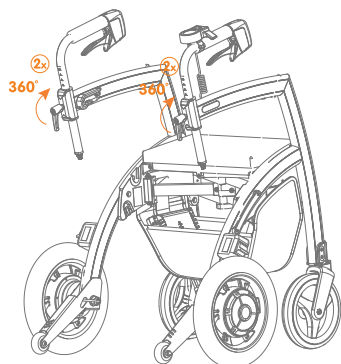
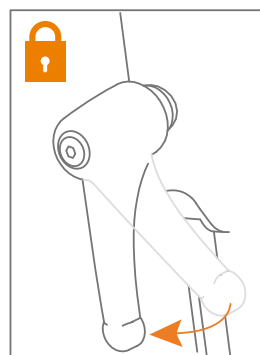

Figure 22: Tighten the adjustment handles.
Figure 23: Tighten.
- f. Turn the adjustment handles clockwise to tighten them **(Figure 22)** and **(Figure 23)**.